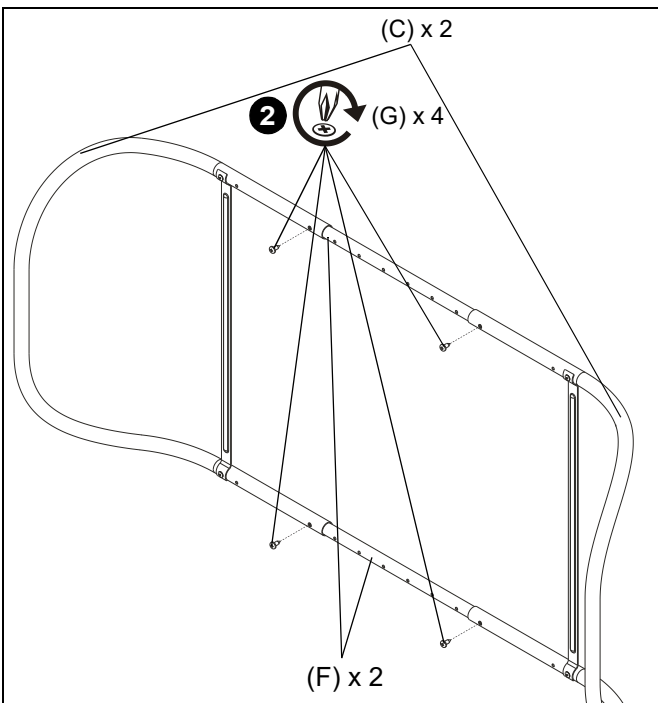

Figure 2
2. Use four #12-24 x 3/8" Phillips tapping screws (G) to secure outside frames (C) to center joiner tubes (F). (See Figure 2)